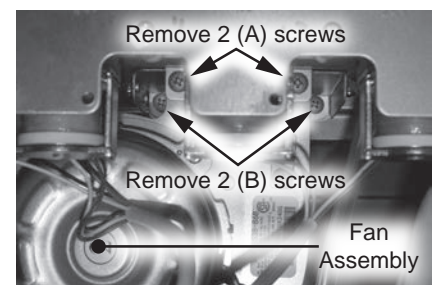
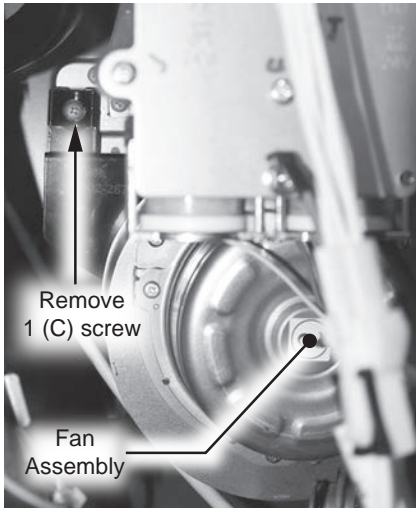

Figure 141 - Fan screw location (A & B)
Figure 142 - Fan screw location (C)
- 29 Locate the five screws securing the fan assembly to the burner. There are two screws securing the front of the fan assembly (A), two screws securing the back of the fan assembly (B), and one screw securing the fan bracket (C) to the water heater cabinet. See Figure 141 & Figure 142.